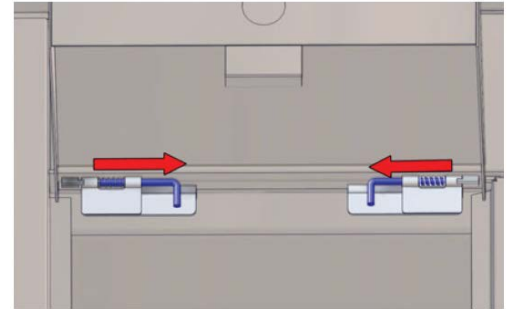

Figure 26: Push hinges inward
3. Push the hinge pins inward to release the door from the hinges (Figure 26).